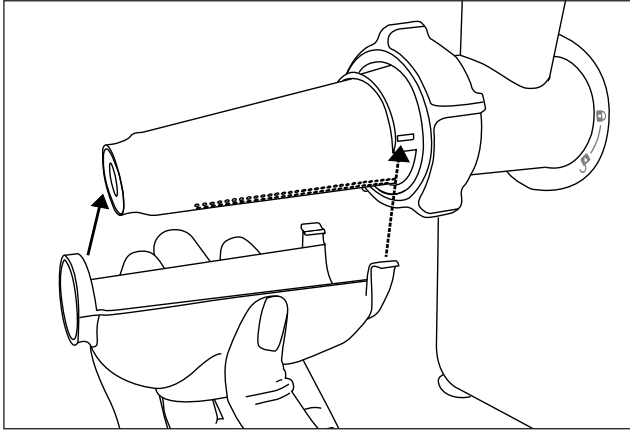

Fig. 2
- 8) Now attach the drip tray **8** onto the strainer sieve **10** (see fig. 2). To do this, push the ring onto the tip of the strainer sieve **10** and hook the fasteners **7** on both sides of the wide end. The hole in the drip tray **8** faces downwards.